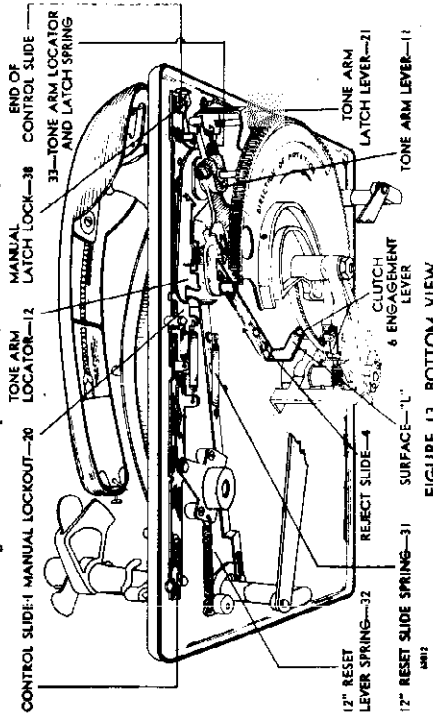
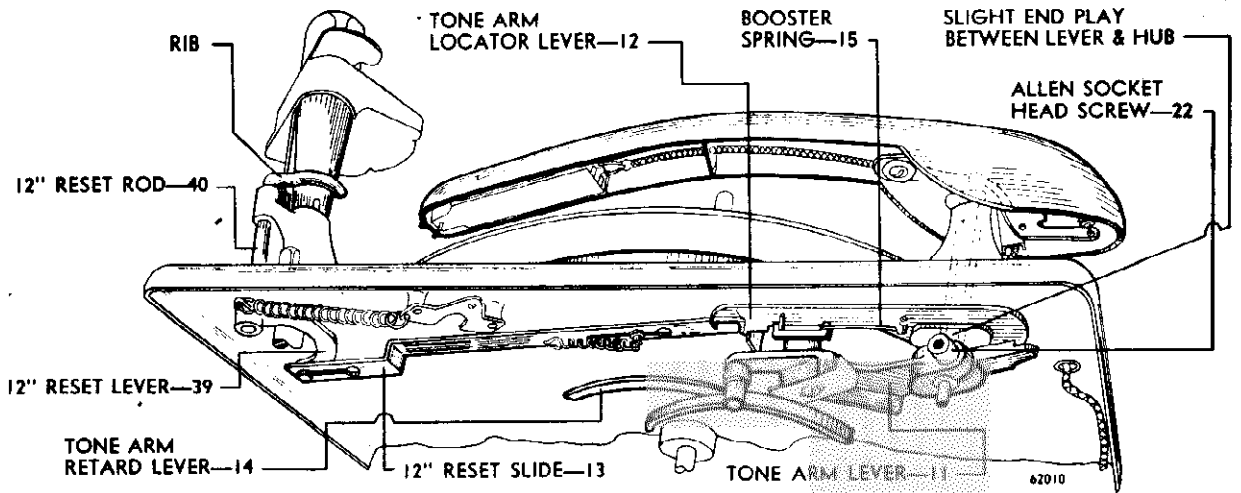

FIGURE 13. BOTTOM VIEW
FIGURE 16. BOTTOM VIEW
A. TONE ARM LATCH LEVER (21)
- a. A positive lock for the tone arm when the latter is swung to the outside of the panel in all positions of the control slide other than "MANUAL". This is brought about by the engagement between the tone arm lever (11) and the tone arm latch lever (21).
- b. A partial lock, or detent, for the tone arm while the control slide is in "MANUAL". This results when the control slide is moved to the "MANUAL" position. The back edge of the control slide strikes the manual latch lock (38), which in turn moves the tone arm latch lever (21).
- a. When the tone arm is playing a record in "AUTOMATIC" position and is moved to the rest position, the tone arm latch lever (21) must positively lock the tone arm lever (11).
- b. When the control slide is moved to "MANUAL" the turned down portion of the control slide must contact the manual latch lock (38) which pulls the tone arm latch lever (21) and changes its contact with the tone arm lever (11) from a positive lock to a partial lock, giving a light, smooth detent action when the tone arm is in the rest position. (See Fig. 13)
1. Study the text concerning Fig. 13. Examine the following two springs for being loose, of improper tension or missing: 12" Reset Slide Spring (31), 12" Reset Lever Spring (32).
2. Incorrect Locator Spring Tension (33)
3. Tone arm retard lever (14) binds. Examine its pivot point for foreign matter between gear casing and shoulder screw. Also, examine retard lever spring (26) for proper action. (See FIG. 16.)